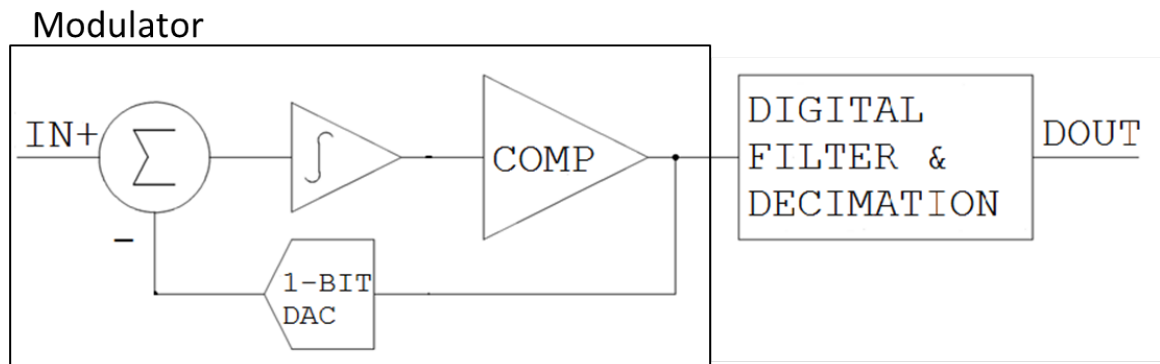

Figure 2: Modulator and Filtering
-the oversample rate (OSR), of $2f_{max}$ (Nyquist frequency). The modulator output bit stream is followed by a digital filter, COI3 or SINC4 for the UT32M0R500 ADC module, see Figure 2.